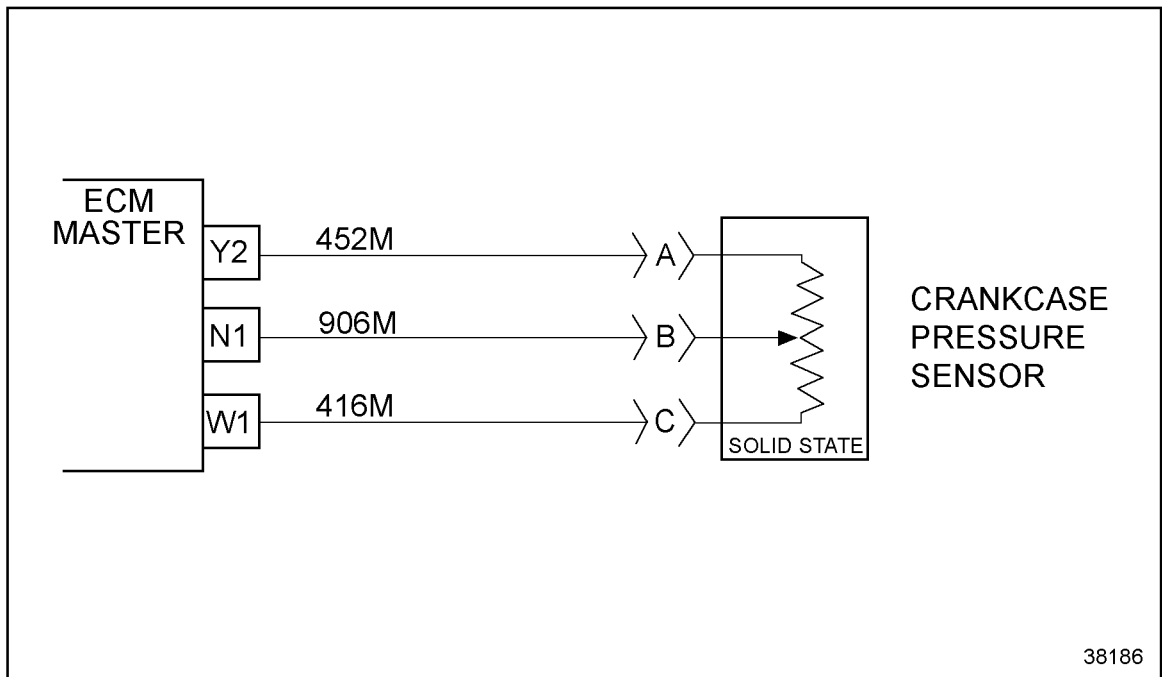

Figure 81-1 Crankcase Pressure Sensor
- [a] If the reading is less than 10 Ω , cavity #416M is shorted to cavity #906M. Repair the short/replace the harness and verify the repair. Refer to section 81.3.10. See Figure 81-1.